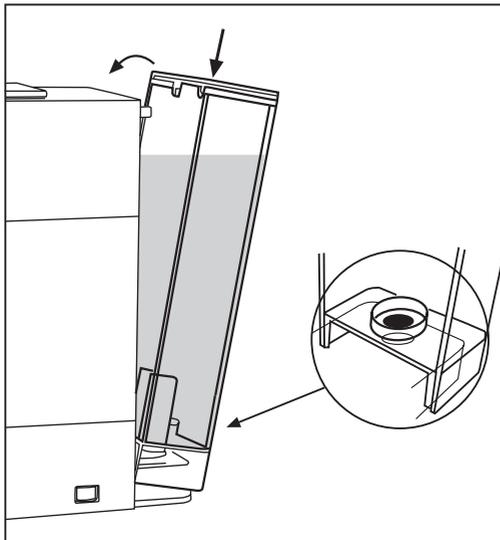

Fig. 3
- Close the cover and replace the tank, tilting it slightly and resting it on the water valve. Press the top of the machine until you hear a click. To avoid water leakages, check that the tank is firmly secured **(Fig.3)**